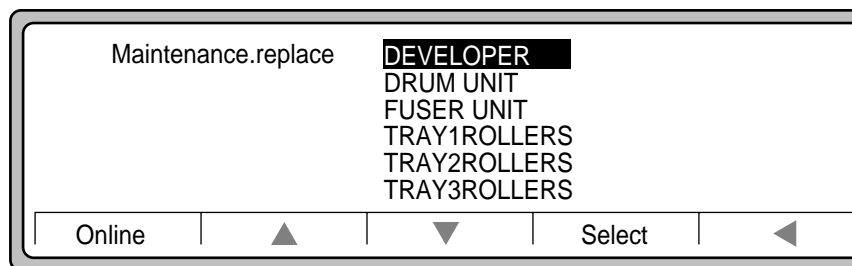

Figure 4-11 Replace selections
4. Use ► to display replace selections, as shown in Figure 4-11. Developer is shown selected.